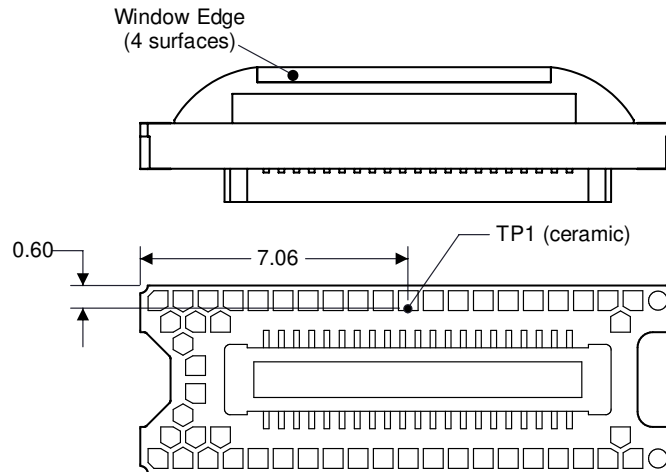

図 7-1. DMD Thermal Test Point
- T_{CERAMIC} = Measured ceramic temperature (°C), TP1 location in 図 7-1
- Q_{ARRAY} = Total DMD power; electrical plus absorbed (calculated) (W)
- $Q_{\text{ELECTRICAL}}$ = Nominal DMD electrical power dissipation (W)